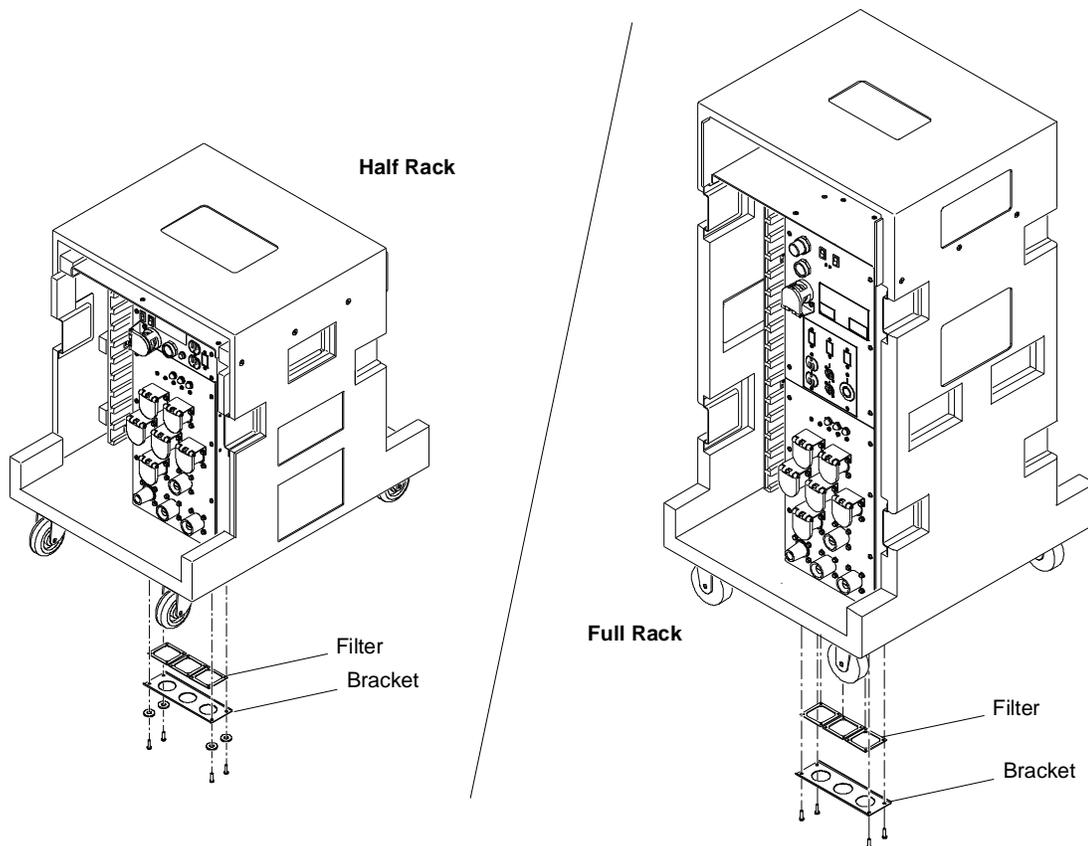

Figure 4-2: Removing Rack Air Filter
- Step 3. Remove four screws securing filter bracket and remove bracket and filter (**Figure 4-2**).